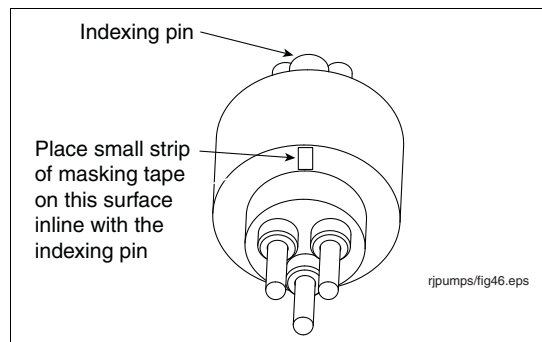

Figure 39. Placing Masking Tape Alignment Marker On Front Of Male Connector
12. Place a small piece of masking tape on the pins side of the connector inline with the indexing pin (see Figure 39).